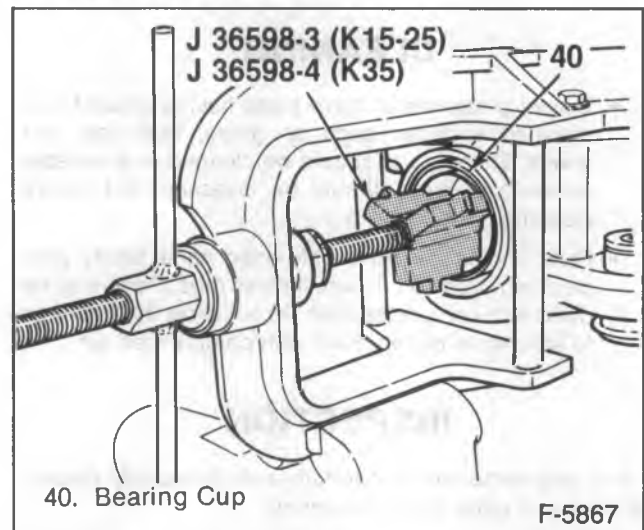
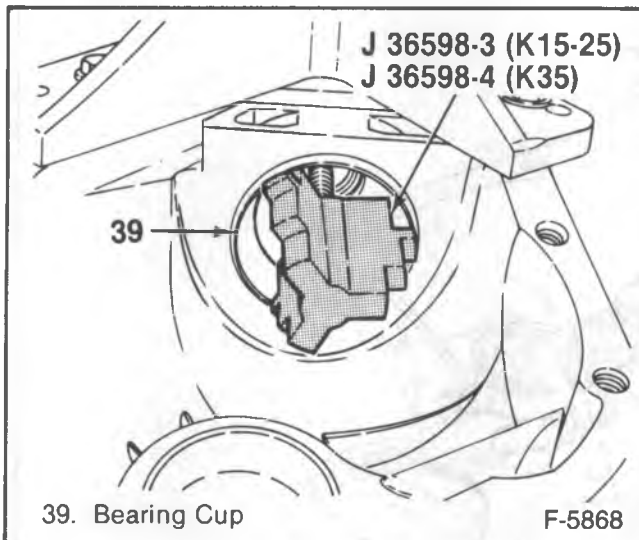

Figure 20—Installing the Outer Pinion Bearing Cup
Figure 21—Installing the Inner Pinion Bearing Cup
1. Outer bearing cup (40). Use the forcing screw and J 36598-3 (K15-25) or J 36598-4 (K35) (figure 20).
2. Inner bearing cup (39).
- Install J 36598-3 (K15-25 models) or J 36598-4 (K35 models) on the forcing screw (figure 21).
- Pull the bearing cup into place with the forcing screw (figure 21).